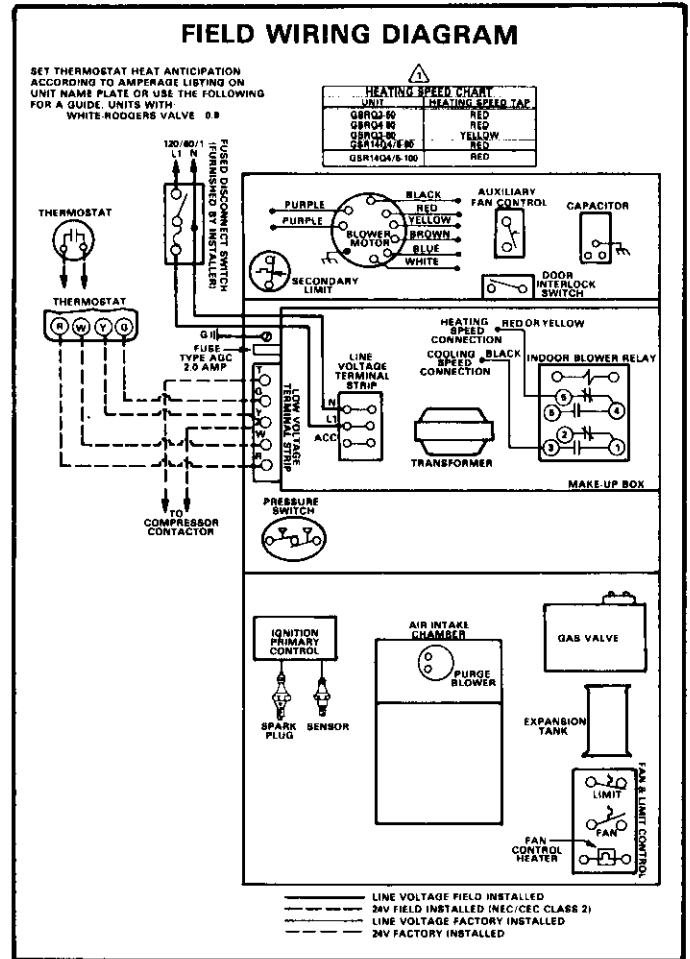

FIGURE 25
- 17 - Field Wiring (Figure 25)**